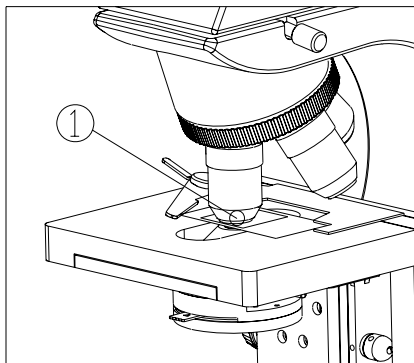

Fig. 15
2. Place a drop of oil① on the specimen (see Fig. 15).